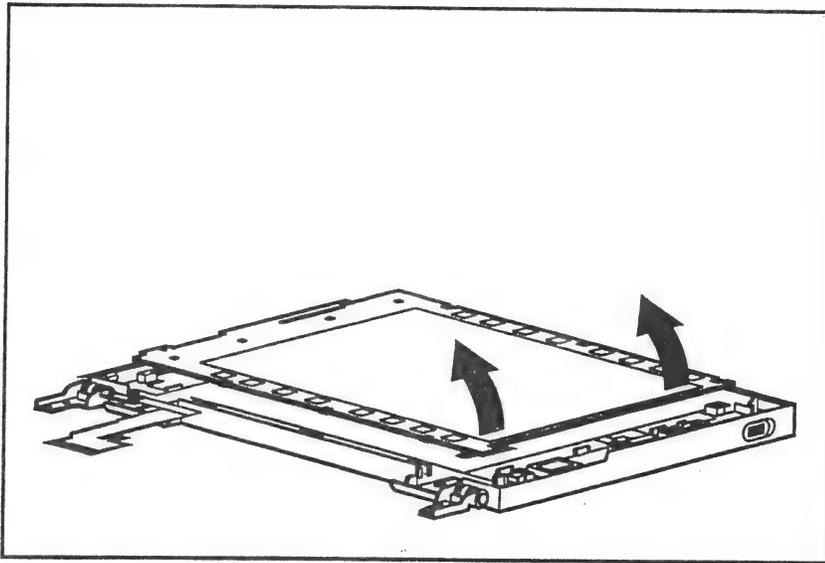

Figure 2-36. Removing the LCD Panel
4. Rotate the LCD panel out of the display enclosure (Figure 2-36).